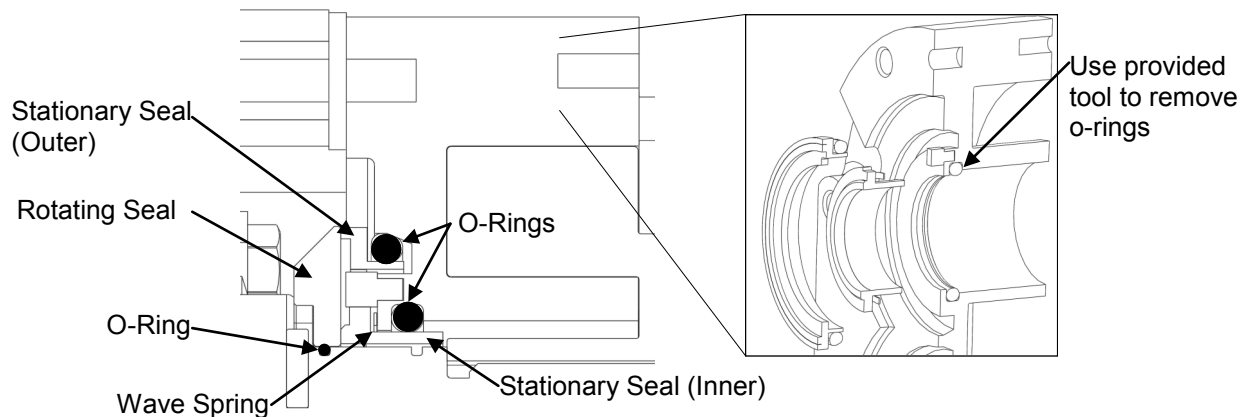

Figure 35: Double Mechanical Seal Disassembly
*Disassembly:* The double mechanical seal option consists of two mechanical seal sets (Rotating seal, inner and outer stationary seal), two wave springs and six o-rings (Figure 35). Remove the outer and inner seals from the back of the body and inspect them for chipping, scratches or any other evidence of cracks on the seal face. Remove the body o-rings using the tool provided by Ampco (discard o-rings). Remove the rotating seals from shafts and inspect for damage (previously described). If any of the seals are damaged, do not re-use them. Remove shaft o-rings and discard them.